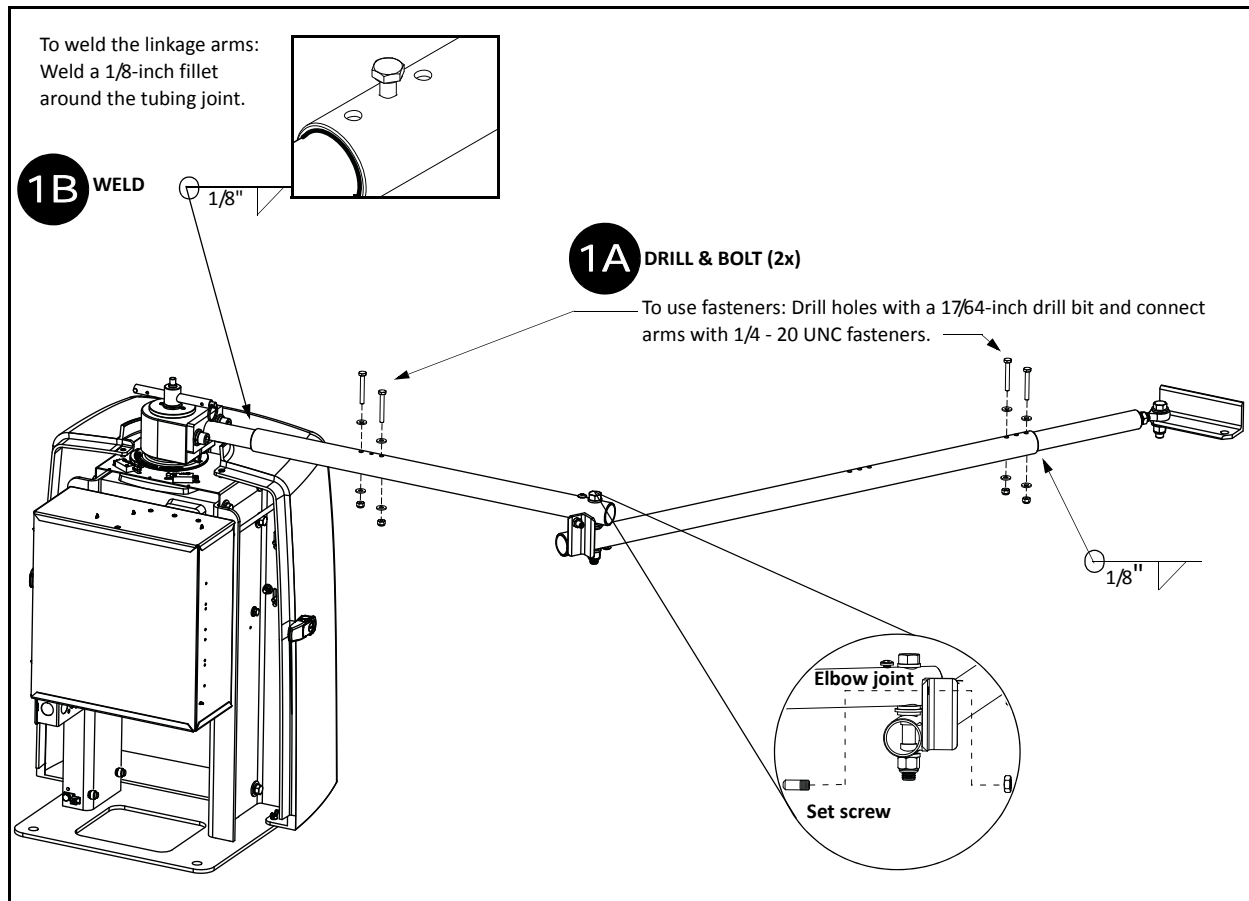

Figure 1-14.
- 1A** DRILL & BOLT: If you plan to use fasteners, drill holes through the linkage arms. Refer to Figure 1-14.